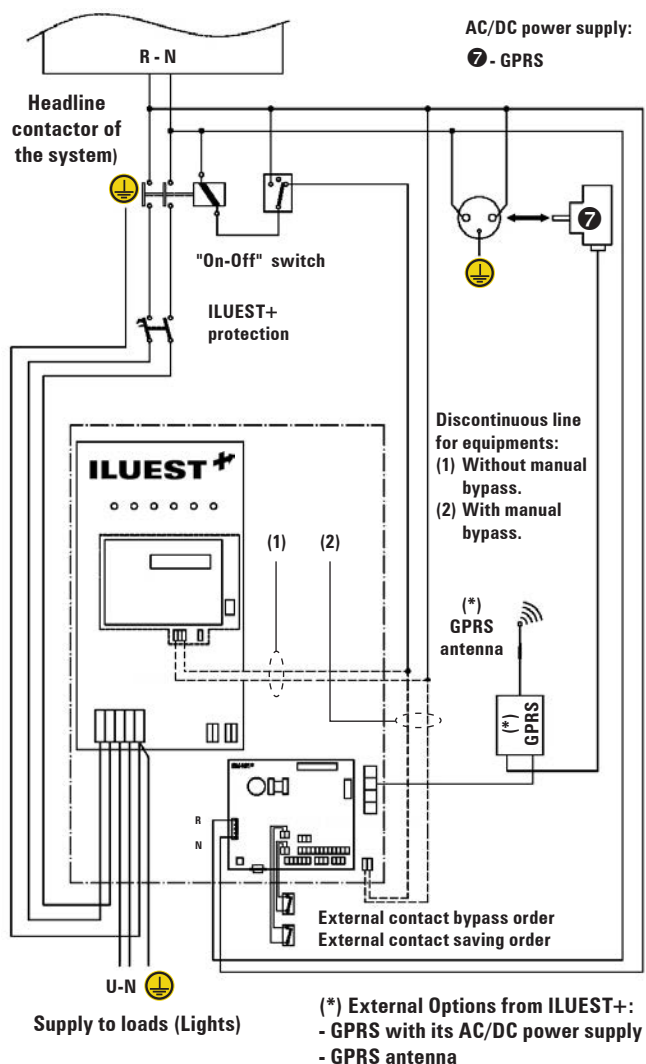

Fig. 21. Installation diagram for single phase unit with format **(T)** or **(I)**.
- Equipment with control card (BM491*) with or without manual Bypass, see figures 21 for single phase equipments or 22 for three phase.
- For single phase equipments, take 2 wires (phase R and neutral) coming from mains and before of headline contactor, and connect them to the identified terminals over card BM491*, by respecting the phase and neutral rotation (see figure 21).
- ❑ Equipment with format **(T)** or **(I)** with the basic control card BM491*01., or the optional one BM491*00. In these equipments the control of headline contactor, is done through the LCD panel and its power supply it through either of the two controls card BM491* (see figures 21 and 22).